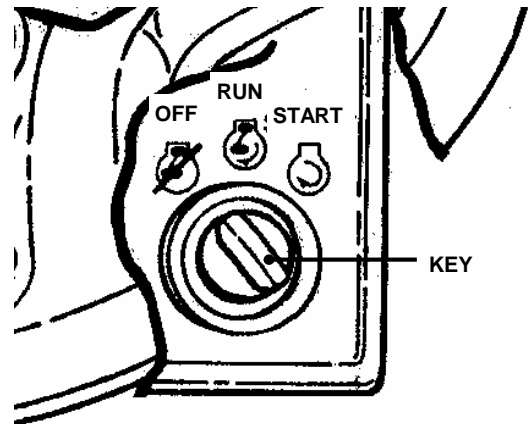

FIGURE 2.9
1. Stop engine by turning key to the "OFF" position. See Figure 2.9.